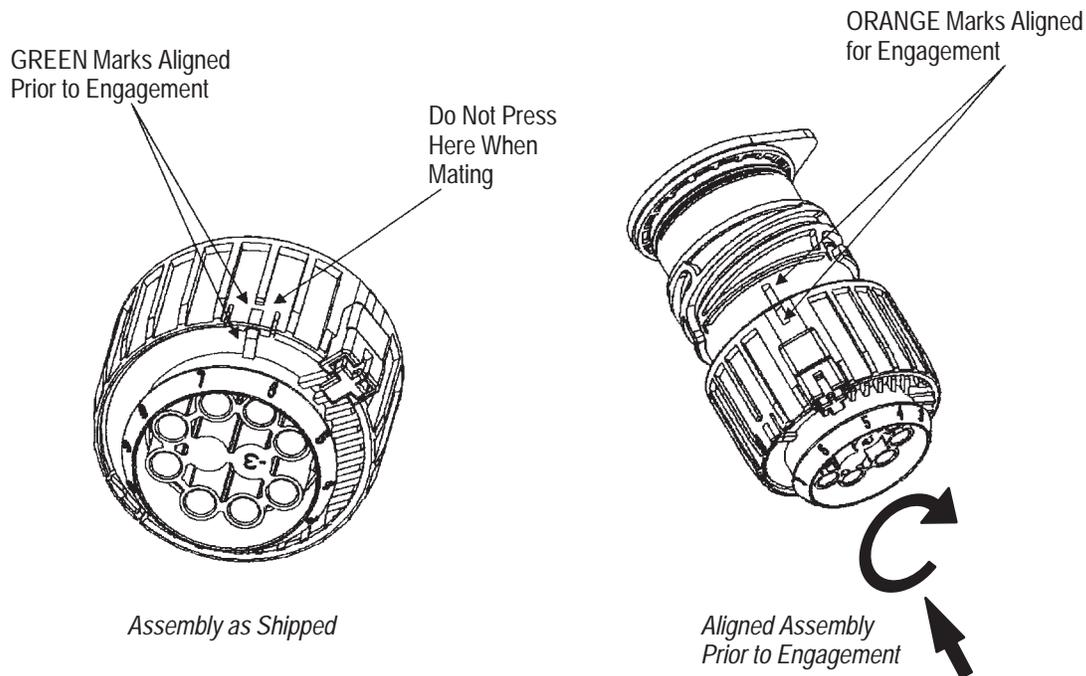

Figure 4
Engage and rotate the ring clockwise until the torque required to fully engage the receptacle housing slightly decreases, when the ring assumes the seated position in the coupler depressions. At this point, the index finger at the back of the connector housing will fall into the end of travel detent. See Figure 4.
- Added new Figure 4 and renumbered